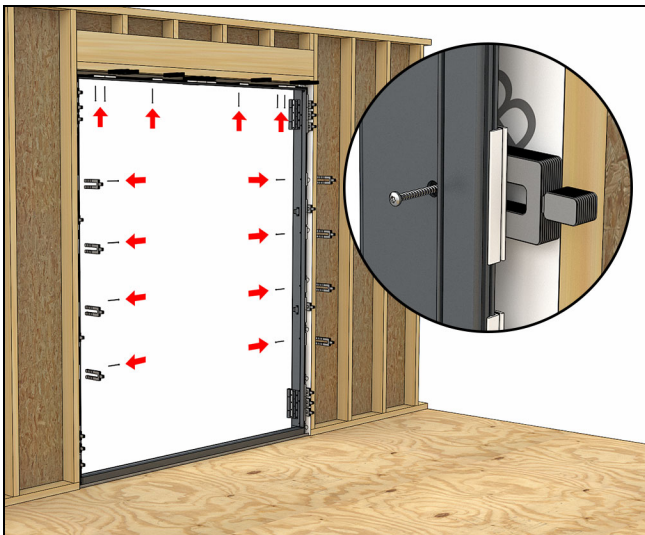

Figure 51
16. Fasten remaining installation screws and shims in the jamb and head jamb. See Figure 51.